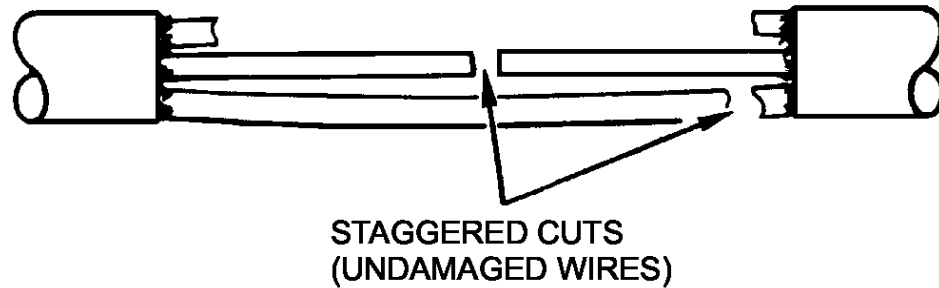

Figure 11. Undamaged Wires Cut at Staggered Locations.
j. Slide tubing and braid from shield repair kit, over either cable end. Tape tubing and braid to bundle to hold in place (Figure 11).